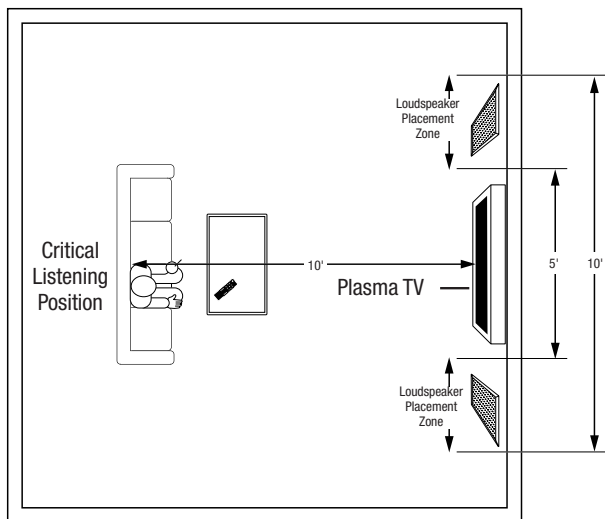

Figure 2. Recommended loudspeaker placement for front left and right channels.
- *In home theater applications where there is a center channel, you may choose to space the left and right main loudspeakers farther apart for a “bigger than life” sound with Dolby® encoded movies and TV shows. However, for combined music and movie usage, we recommend using the placement zone for stereo music. Ideally, if the listening position is 10 feet back from the wall, place the loudspeakers between 5 and 10 feet apart, as shown in **Figure 2**.*